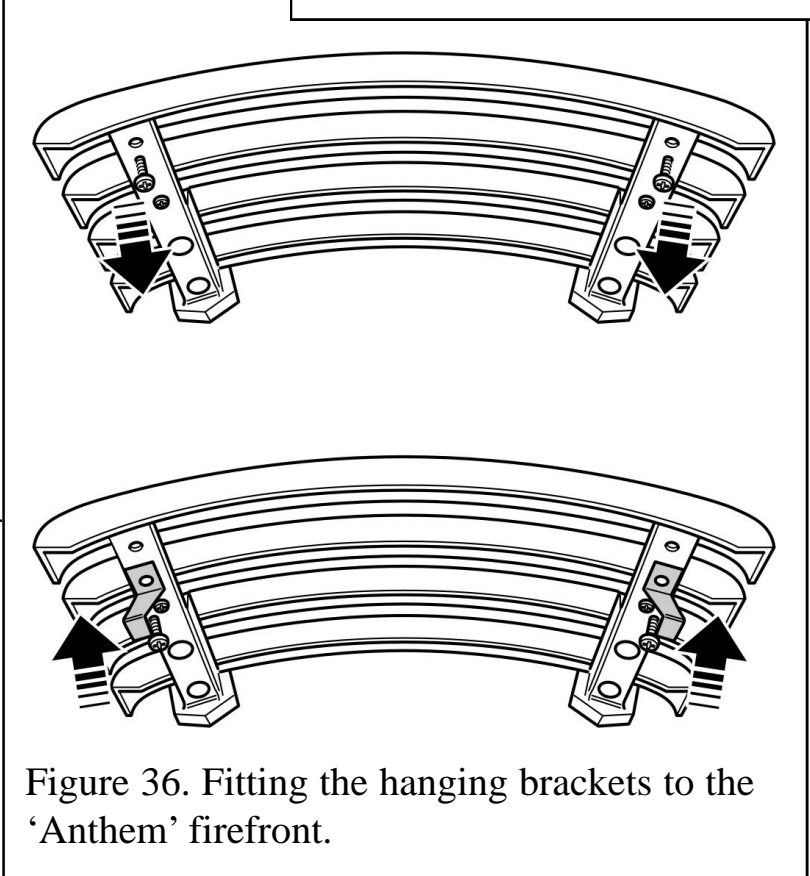

Figure 36. Fitting the hanging brackets to the 'Anthem' firefront.
2. Remove the two M4 screws from the rear of the firefront casting (See figure 36). The top section of the casting will detach from its support leg.
3. Position the brackets as in figure 36 and secure the brackets and